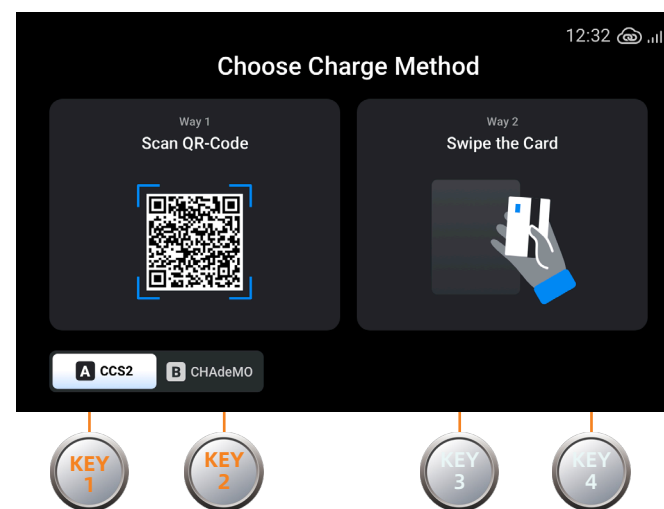

Fig. 3-2 Charging Method Selection Interface
Step 2 Enter the charging mode selection interface and choose the card swiping mode, as shown in Fig. 3-2.